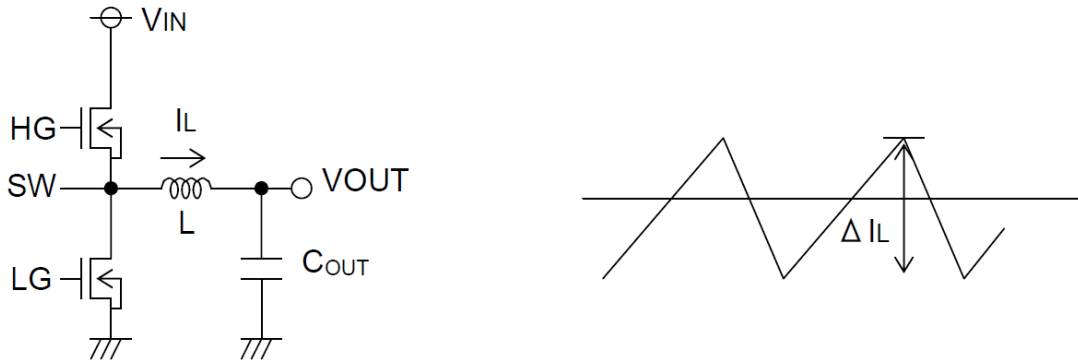

Fig 14: Inductor Ripple Current
Also, consideration must be given to the conditions in the following formula (5) for output capacitance, since the output rise time must be established within the soft start time. For the output capacitance, the bypass capacitor is also connected to the output load side (C_{EXT}, Fig.14). Please set the over current detection value taking into account these capacitances.